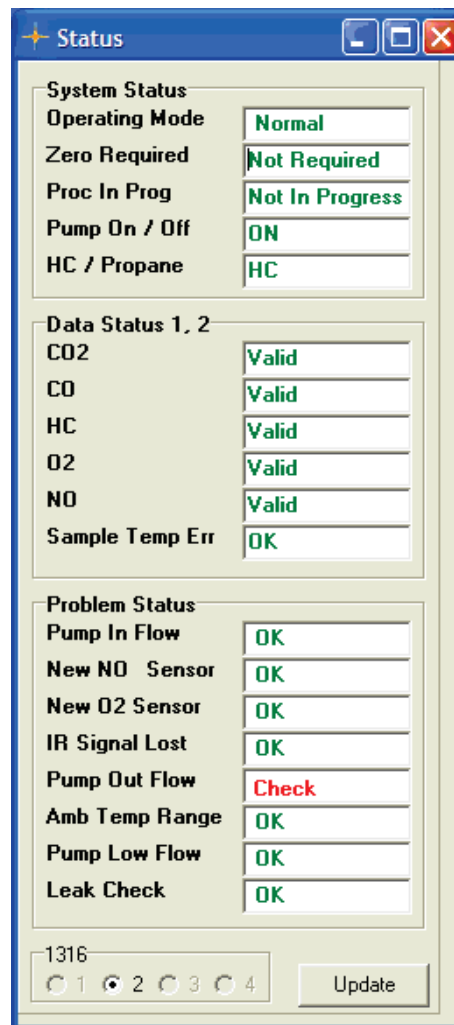

Figure 4.4. The Status Window displaying the Pump Out Flow Check.
If this test fails, the Pump Out Flow Check is shown in the Status window (see figure 4.4) and the zero calibration procedure is aborted:
3. A Flow Fault has been detected, see figure 4.4, “Pump Out Flow” caused by exceeded pressure limits.